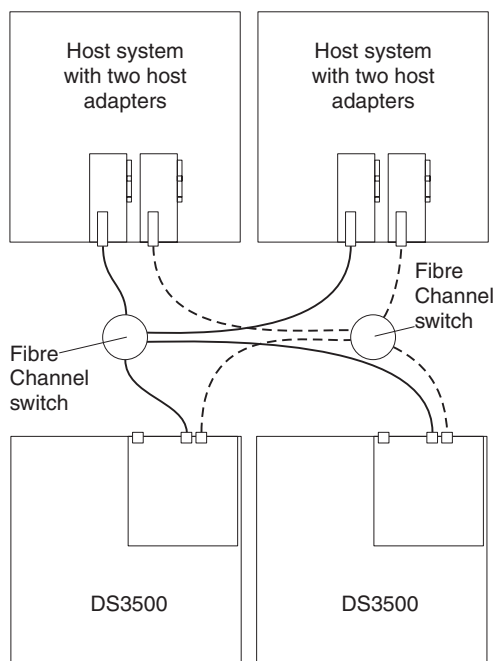

Figure 3-48. Example of two storage subsystems in a dual Fibre Channel SAN environment
- Two storage subsystems in a dual SAN fabric configuration, as shown in Figure 3-48 on page 3-38
In Figure 3-48, the Fibre Channel switches are not connected together. Each switch forms its own SAN fabric.